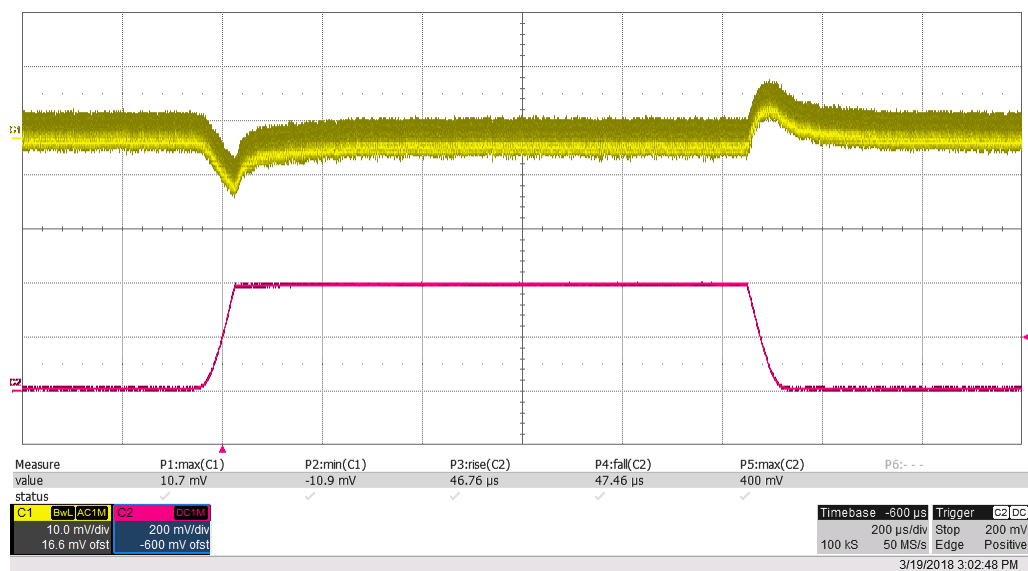

Figure 13. Output Voltage Transient, $V_{IN} = 12\text{ V}$, 1-V V_{OUT} From 20-mA to 40-mA Load
Figure 13 shows the 1-V output voltage when the load current is stepped between 20 A and 40 A. An external static load of 20 A was used along with an onboard dynamic load for 20-A pulses.
- The waveform in Figure 13 is across a 20-m Ω resistor to ground on the dynamic load